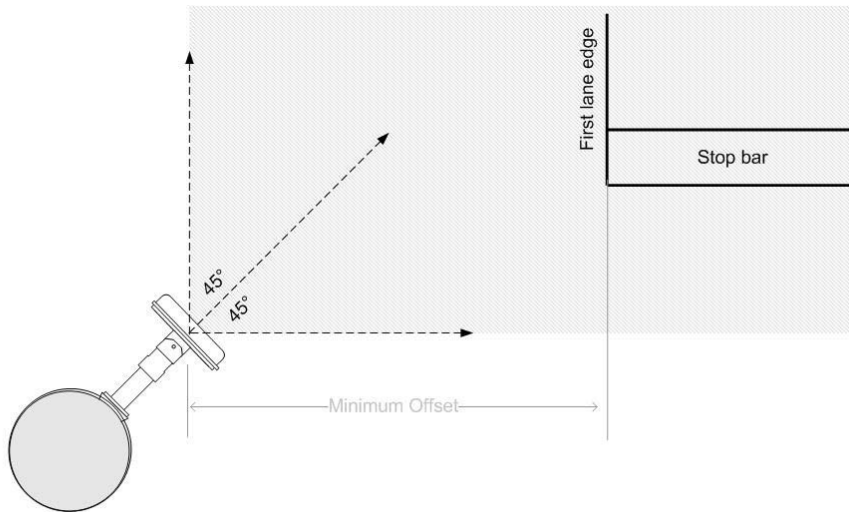

Figure 1.1 – Attach the Mount Bracket to the Pole
2. Position the mount on the pole so that the head of the mount is pointing toward the lanes of interest at about a 45° angle. Figure 1.1 illustrates the sensor mount pointed at a 45° angle. (Figure 1.1 also depicts the sensor attached to the mount. This is intended to help visualize the objective of pointing the mount at a 45°. The objective is that a 45° pointing will often provide a ballpark alignment of the sensor beam over roadway, once the sensor is attached. The next section of this chapter explains how to attach the sensor.)
To visualize the extent of the sensor beam an installer can use a square framing tool (e.g. rafter square) or other solid surface with a right-angle. The tool can be held above the sensor as a visual aid similar to the illustration in Figure 1.1. By looking down both edges of the square instrument you can visualize the extent of the radar's coverage.